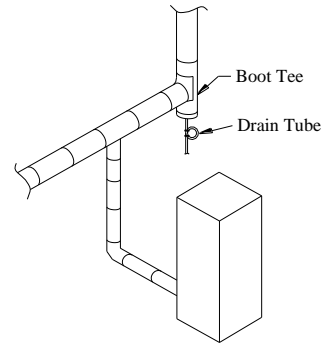

Fig 6A. (Boot Tee w/ Drain Cover & Tube)
- A Saf-T Vent In-Line Drain Section, Tee or Boot Tee with a separate Tee Cover Drain is strongly recommended. Install this drain fitting as close to the appliance flue collar as possible (See Fig. 6A).
- Use the Boot Tee to transition from horizontal to vertical and attach the Drain Tee Cover to the appropriate leg of the tee (See Fig 6A).